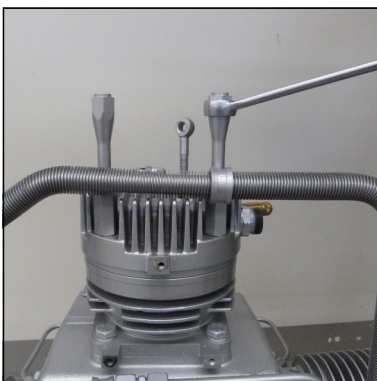

Fig. 5 - Remove cooling pipe bracket
- Remove cooling pipe bracket (Fig. 5).